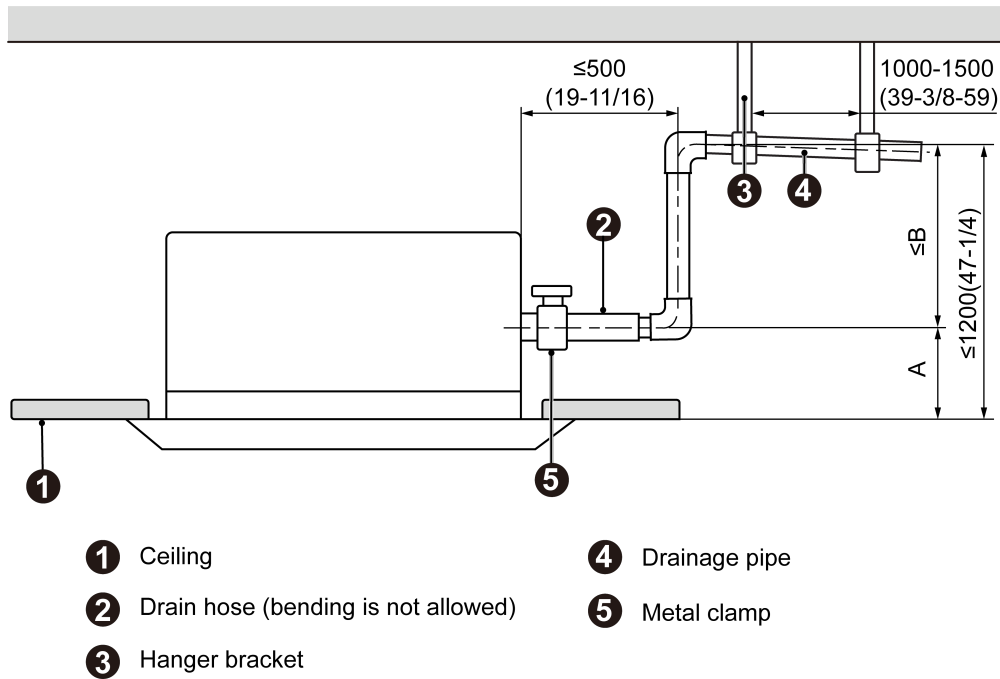

Fig.4.3.3
- (8) The installation height of raising pipe for drainage should be lower than B. The gradient from raising pipe towards drainage direction should be at least 1%~2%. If the raising pipe is vertical with the unit, the raising height should be less than C, as shown in Fig.4.3.3.